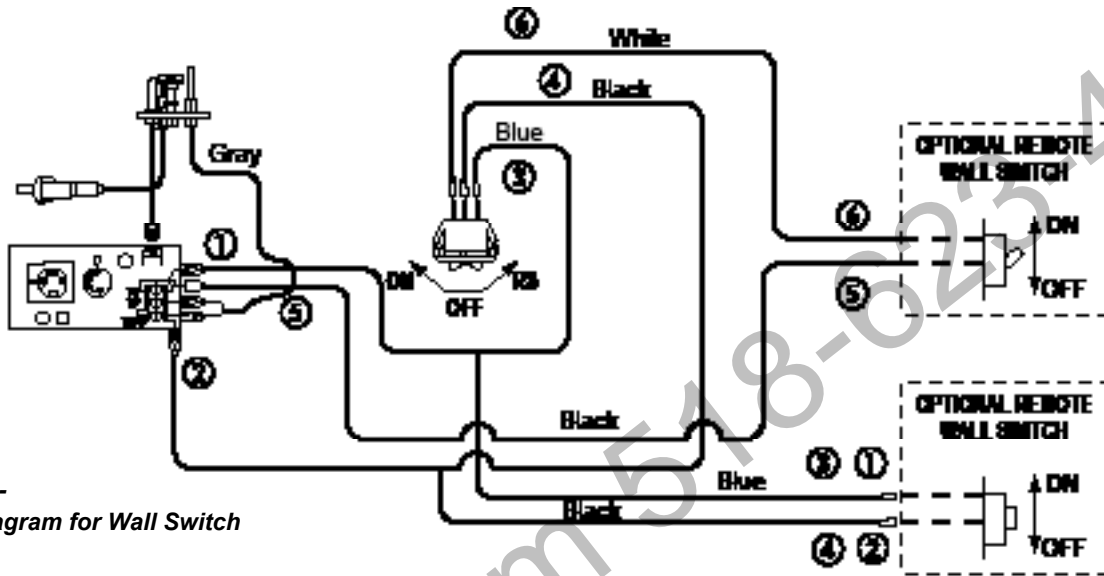

Figure 44 - Wiring Diagram for Wall Switch
A remote wall switch and up to fifteen (15) feet of 18 Ga. wire may be used with this appliance. Attach the wall switch in a junction box at the desired location on the wall. *Figure 44*. Do not extend beyond the wall switch wire length provided.